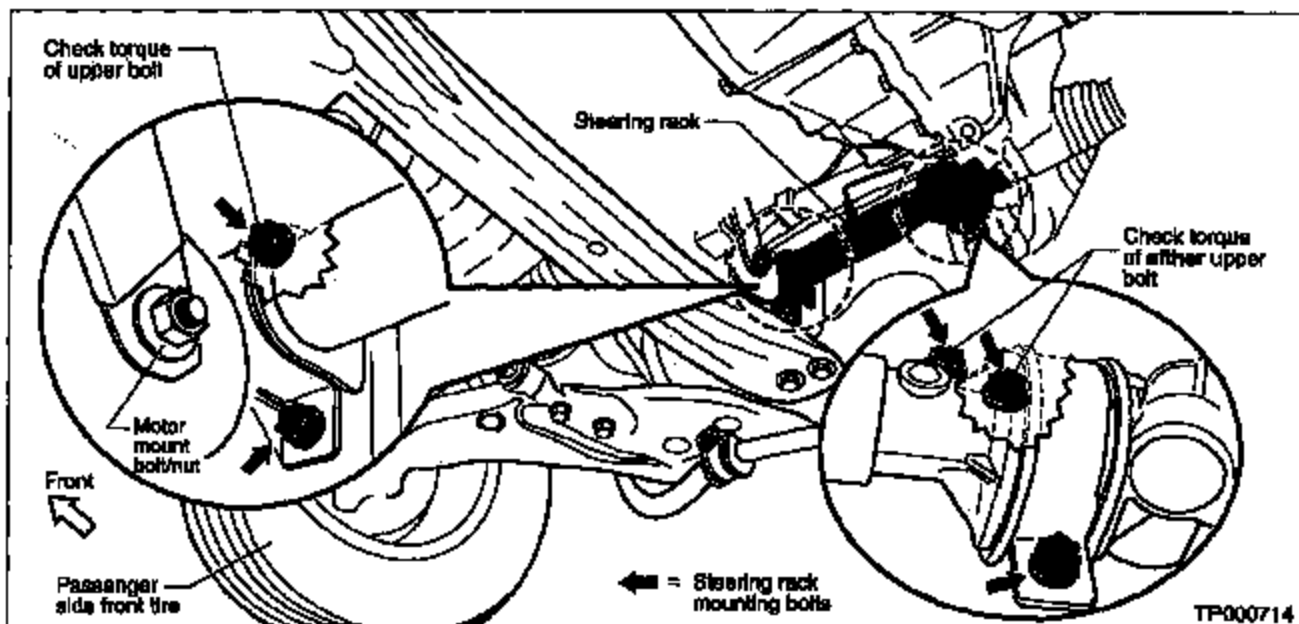

Figure 6
1. Lift the vehicle and verify that all five steering rack mounting bolts are present (see Figure 6).
2. Use a torque wrench, set at 27 Nm (2.8 kg-m, 20 ft-lbs), and attempt to tighten the upper bolt of each steering rack mounting bracket (see Figure 6).